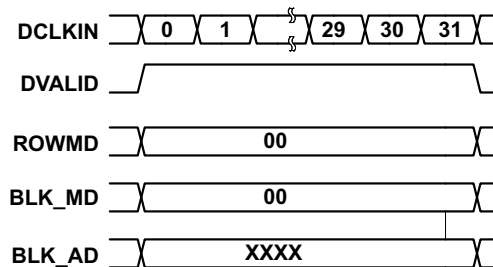

Figure 10. No-Op Row Cycle (DLP7000 example)
A Row No-Op is a row cycle in which setting ROW_MD = "00" commands the DLPC410 that within the current row cycle, no **Row Write** operation is to be performed. A Block No-Op is a row cycle in which BLK_MD = "00" commands the DLPC410 that within the current row cycle no **Block** Operation is to be performed. Row No-Ops can be inserted when only block operations are desired, Block No-ops can be inserted when only Row Write operations are desired, or both Row No-Ops and Block No-Ops can be performed at the same time when neither type of operation is desired (as shown in Figure 10). No-Ops are frequently inserted in the stream of data and commands when delays are desired to complete on-going operations to avoid violating delay requirements.
- This is accomplished by asserting DVALID while holding ROWMD = "00" and BLKMD = "00" for the pre-requisite number of CLKS per ROW (Table 11) clock cycles, as in Figure 10. If no other blocks need to be loaded then continuous No-Op row cycles are applied as in Figure 10 .